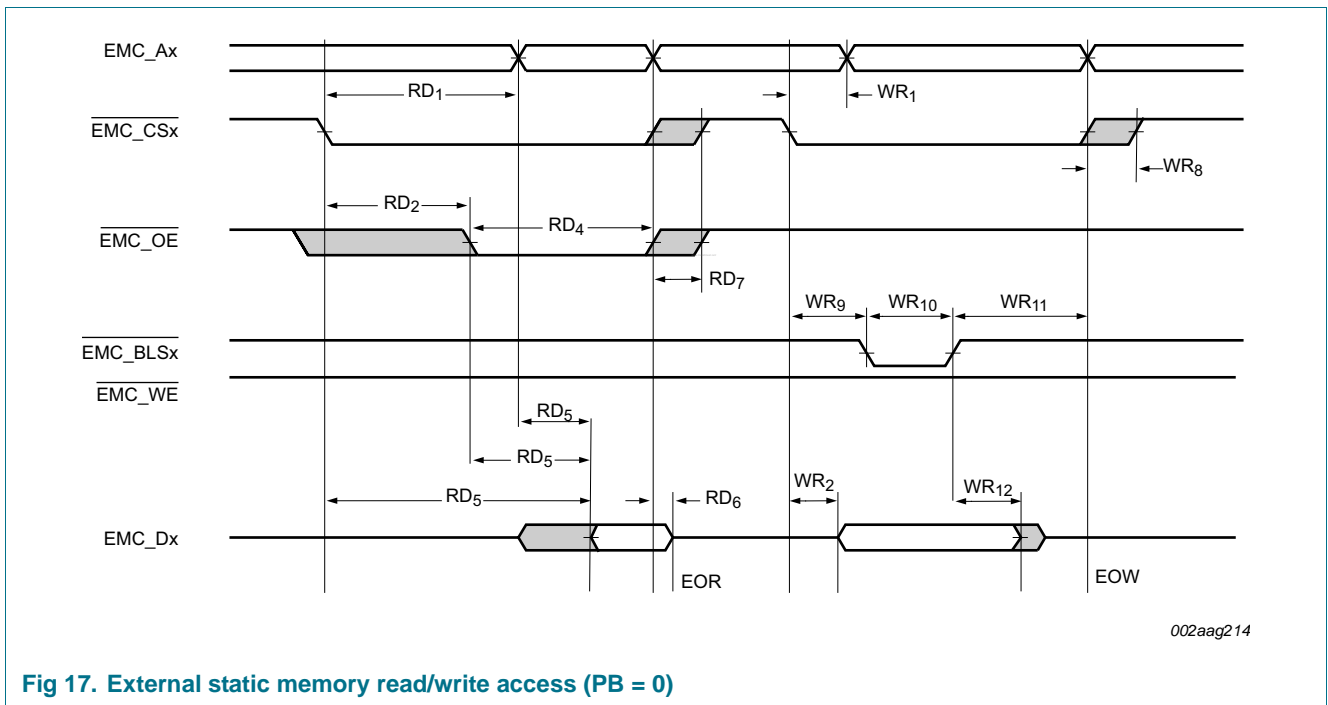

Fig 17. External static memory read/write access (PB = 0)
- [1] Parameters are shown as RD_n or WD_n in Figure 17 as indicated in the Conditions column.